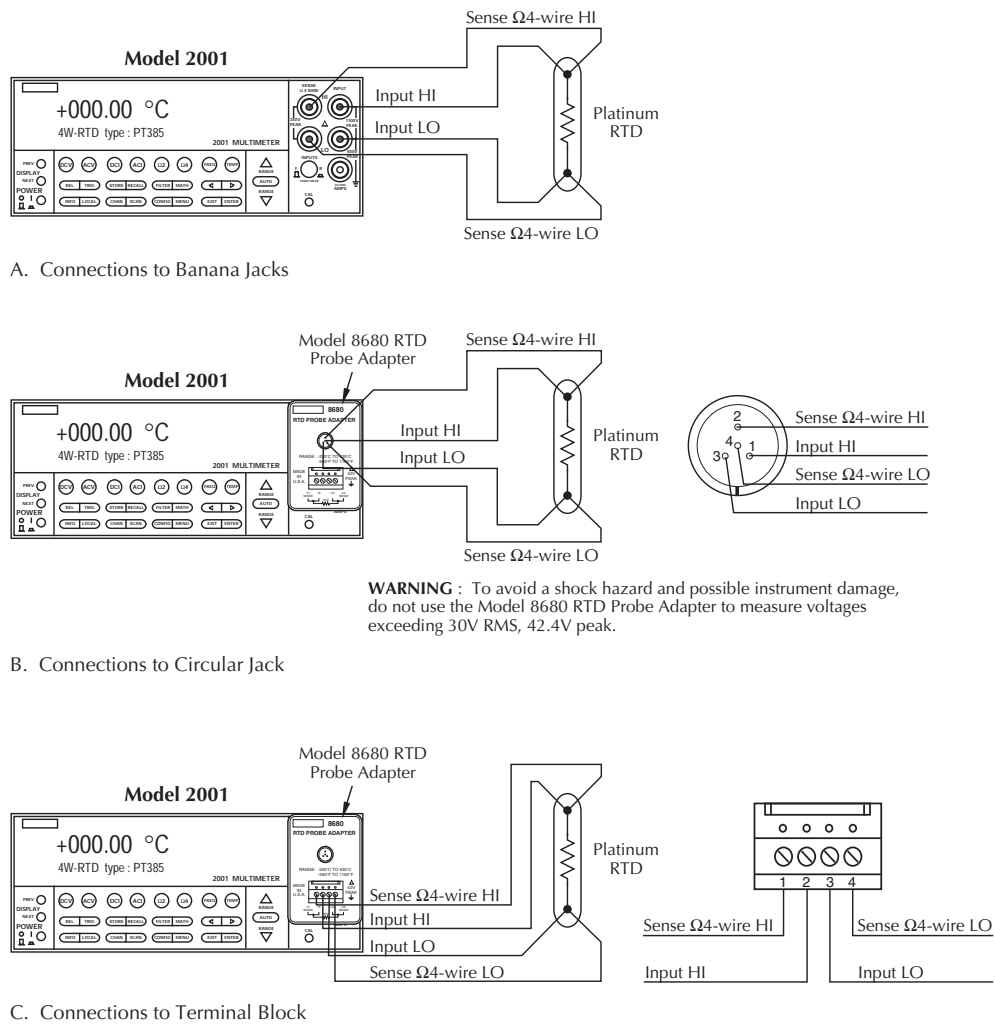

Figure 3-17
1. Connect the RTD sensor to the Model 2001 as shown in *Figure 3-17*. You can use banana plugs (with the front or rear inputs), or the optional Model 8680 RTD Probe